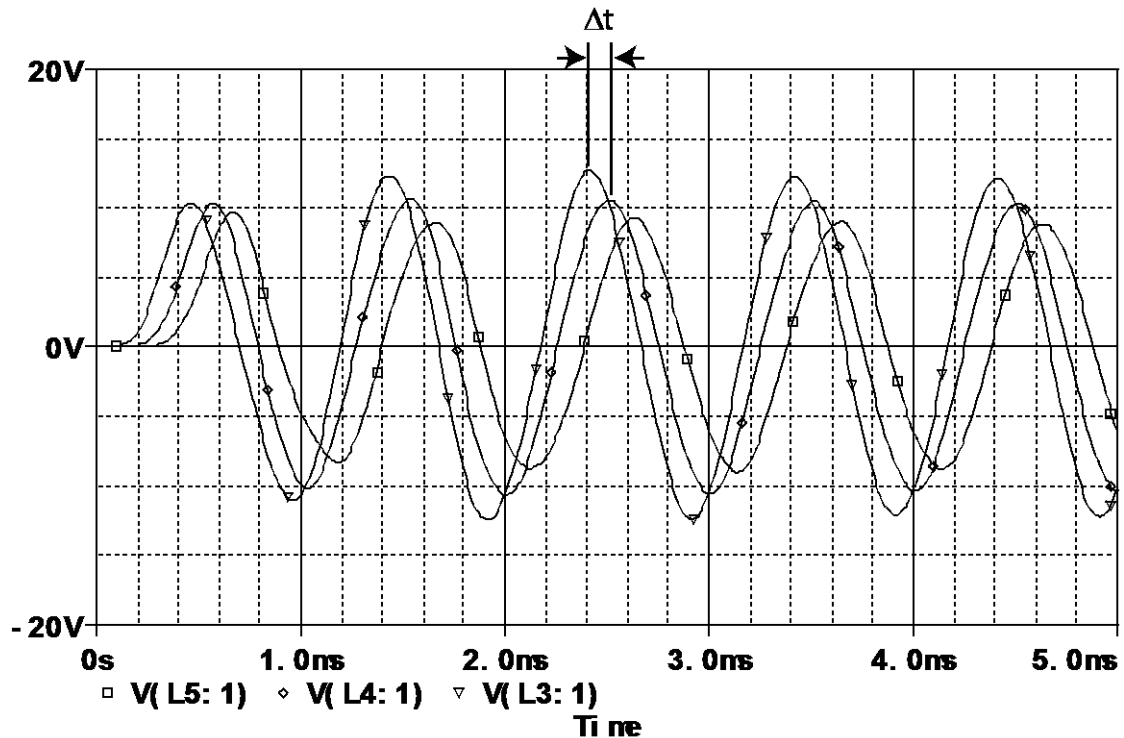

Figure 2. The phase velocity between segments 3 and 4 is  $1/\Delta t$ .
- C. Go to the Analysis menu and open the setup window. Find the transient analysis section and then open it. Set the following parameters: Print Step (.01m), final Time (5m), No-Print Delay (0), and Step Ceiling (.01m). Run the simulation and examine the trace plots associated with each marker.
E. Determine the phase velocity for following three cases (1) between L2-L3 and L3-L4, (2) between L3-L4 and L4-L5, and (3) between L2-L3 and L4-L5. The phase velocity for these cases should be approximately the same. (See Figure 2)